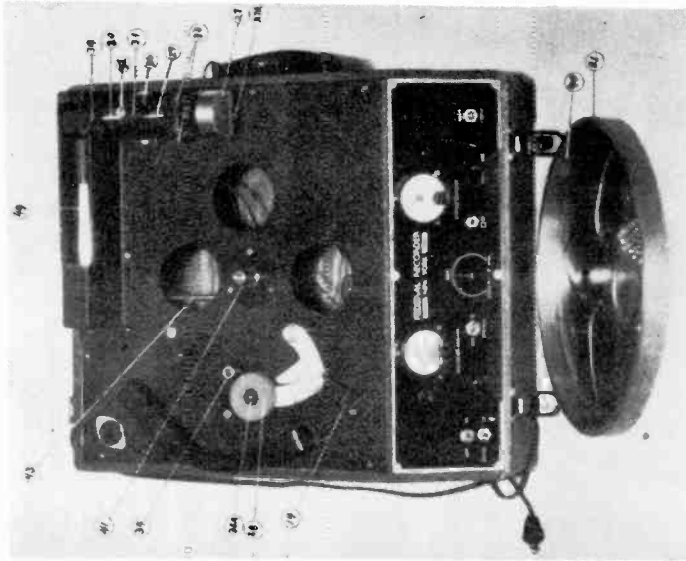

Figure 2
5. The cutting arm guide rod (49 of Figure 2) must be kept oiled throughout its length with a light grade of machine oil.
Any slippage in the drive mechanism while recording will cause a wow. This may be caused by dirt or grease on the motor shaft or rubber pulley. Improper adjustment of the pulley lever (44 of Figure 2) will cause slippage.